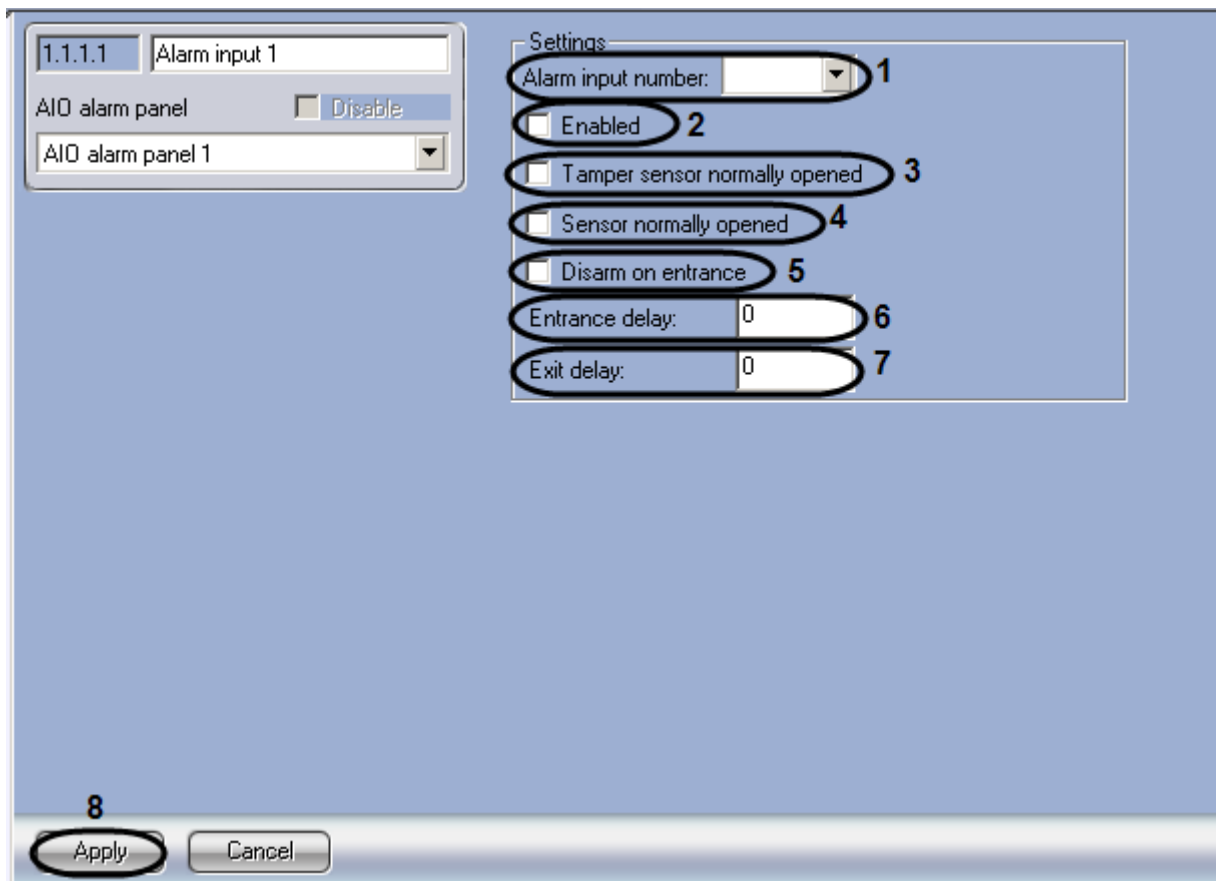

Fig.3.5-4 Alarm Input object's settings pane
1. Go to the **Alarm Input** object's settings panel (Fig.3.5-4).
2. From the **Alarm input number:** dropdown list select the alarm input's index number (see Fig.3.5-4, 1).
3. Check the **Enabled** checkbox if the alarm input is operational (see Fig.3.5-4, 2).
4. Check the **Tamper sensor normally opened** checkbox if the alarm events are to be received while destroying or tampering the sensor cabinet (see Fig.3.5-4, **5**).
5. Check the **Sensor normally opened** checkbox if the alarm input should be in its normal state (non-alarm state) when the contacts are open (see Fig.3.5-4, **4**).
6. If the alarm input should be disarmed upon entrance, set the corresponding option (see Fig.3.5-4, **5**).
7. In the **Entrance delay** field, enter the time period (in seconds) in which the alarm input will be disarmed on entrance (see Fig.3.5-4, **6**).
8. In the **Exit delay** field, enter the time period (in seconds) in which somebody can exit once the alarm input has been armed (see Fig.3.5-4, **6**).